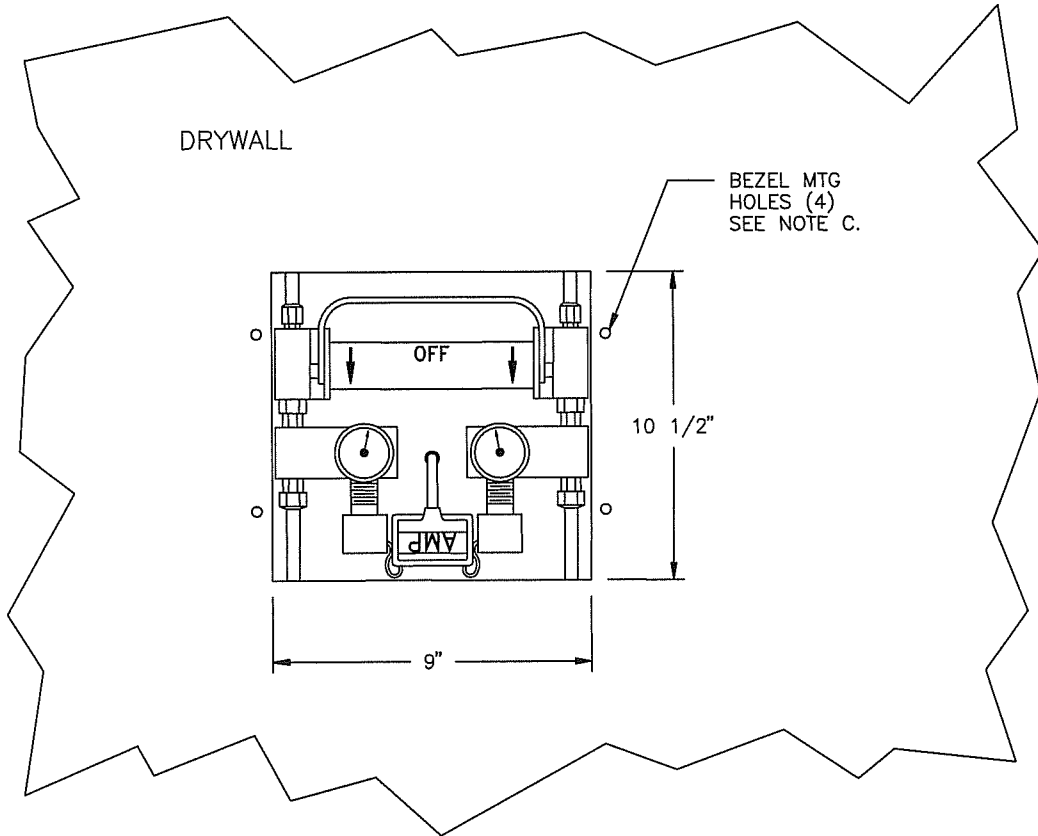

FIG. 2
7. Cutting opening: See Figure 2.